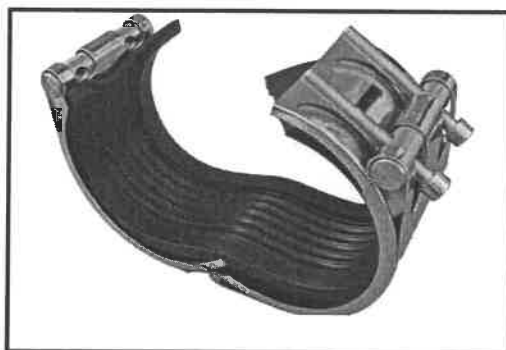

FIGURE 4.3
4.3 FIGURE 4.3 below shows a pipe coupling.